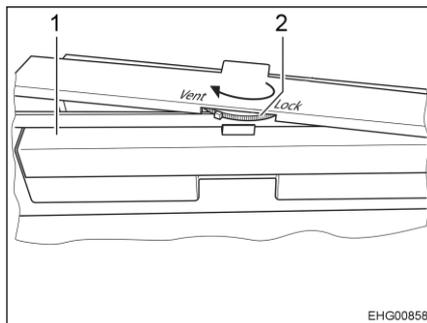

Fig. 56 Locking wheel on the refrigerator door
- Turn the locking wheel (Fig. 56,2) as far as it will go, to the position "Vent".
- Carefully close the door (Fig. 56,1) until it latches. The door is locked in the slightly open position.